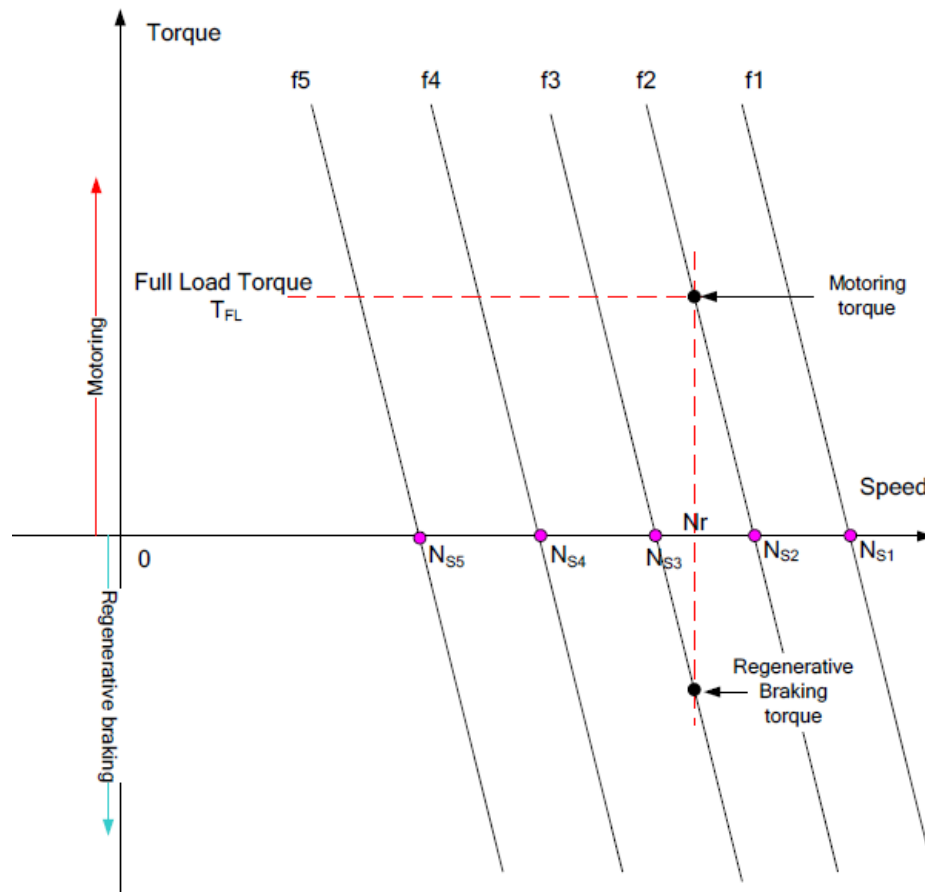

Figure Q6 – Torque-speed curve of an induction motor under constant V/f control
- (b) When inverter-fed variable-frequency control is applied to induction motors, constant voltage/frequency (V/f) ratio is maintained. Motor torque-speed curves for various frequencies from full-load motoring to full-load braking can be assumed to be parallel straight lines, each passing through corresponding synchronous speed without significant error, as shown in Fig. Q6.